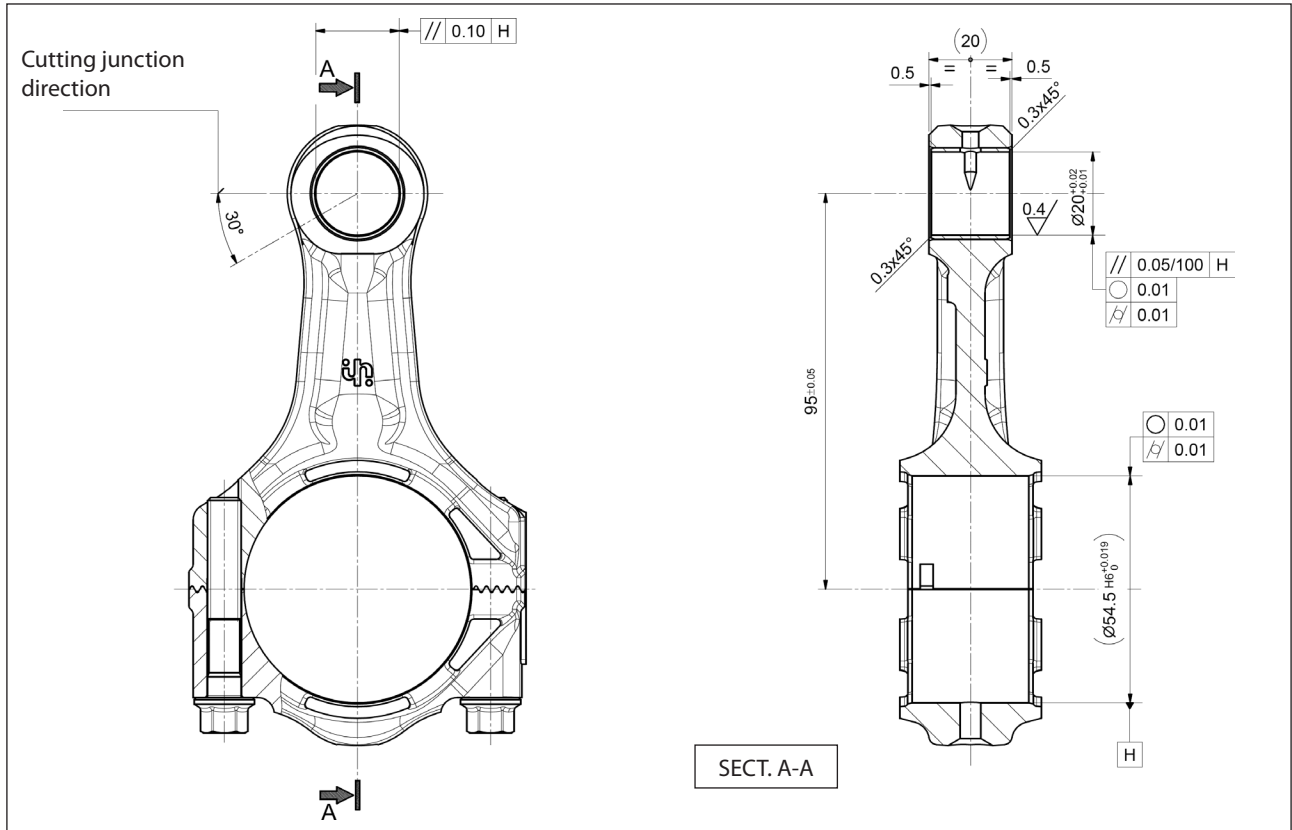

Fig. 69
- the cutting junction is directed as shown in Fig. 69.
Then perform mechanical processing. The dimensions and tolerances shown in Fig. 69 must be respected.